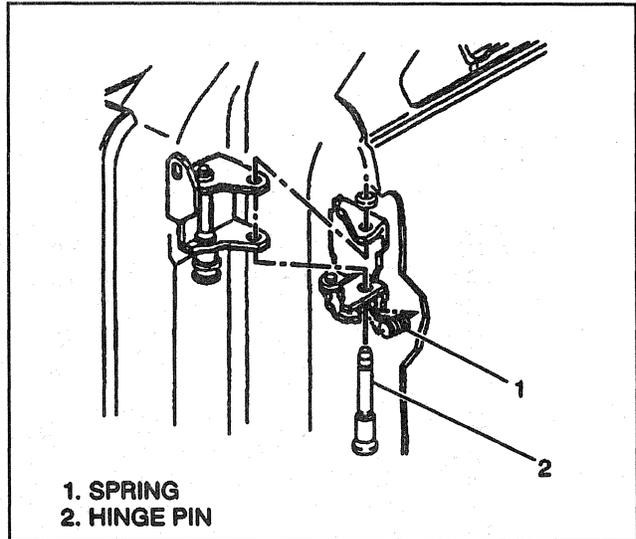

Figure 13—Upper Hinge Pin and Spring
5. Lower hinge pin retainer (Figure 13).
6. Lower hinge pin using a soft-faced hammer and a pair of locking pliers to grasp the pin and drive it out (Figure 13).
5. Lower hinge pin with the pointed edge down (Figure 13).
6. New hinge pin retainer (Figure 13).